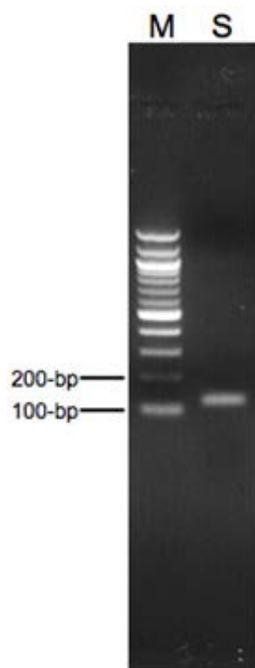

Figure 4. Gel electrophoresis of the PCR product. M = 100-bp DNA ladder. S = 5  $\mu$ l of sample.
3. Run and analyze 5  $\mu$ l of the PCR product on a 2% agarose gel with a 100-bp DNA ladder. You should see a single band at ~130 bp (see Figure 4).